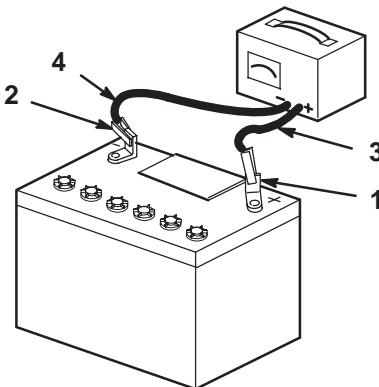

Figure 78
4. When the battery is fully charged, unplug the charger from the electrical outlet, then disconnect the charger leads from the battery posts (Fig. 78).